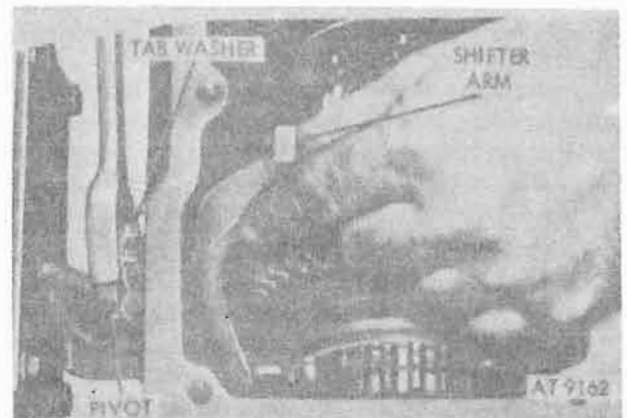

Figure 8-29. Shifter arm and pivot.
a. For early models, straighten tab on tab washer securing pivot. Remove and discard tab washer and pivot. Lift shift arm from case (fig. 8-29).
b. For late models remove pivot and lift shifter arm from case (fig. 8-29).